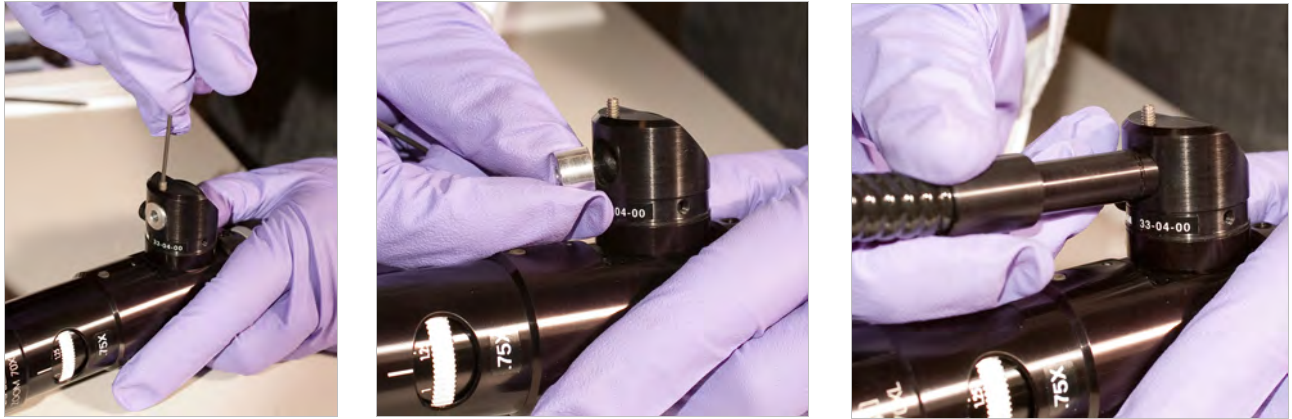

FIGURE 3-12 Left: Loosen the set screw on the fiber optic cable fitting; Middle: Remove protective fitting; Right: Insert the fiber optic cable
- Using the 0.05 in hex driver, loosen the set screw on the fiber optic cable fitting to the microscope (FIGURE 3-12).